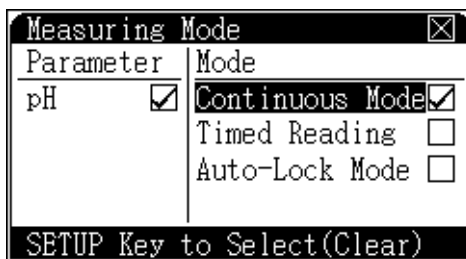

Figure 11 Measuring mode
- 1 Press **[Setup]** and then **[Enter]**. The meter displays is similar to Figure 11. The left side displays parameters. The right side lists the measuring modes. A \checkmark next to a mode means that this mode has been selected in the current setup.